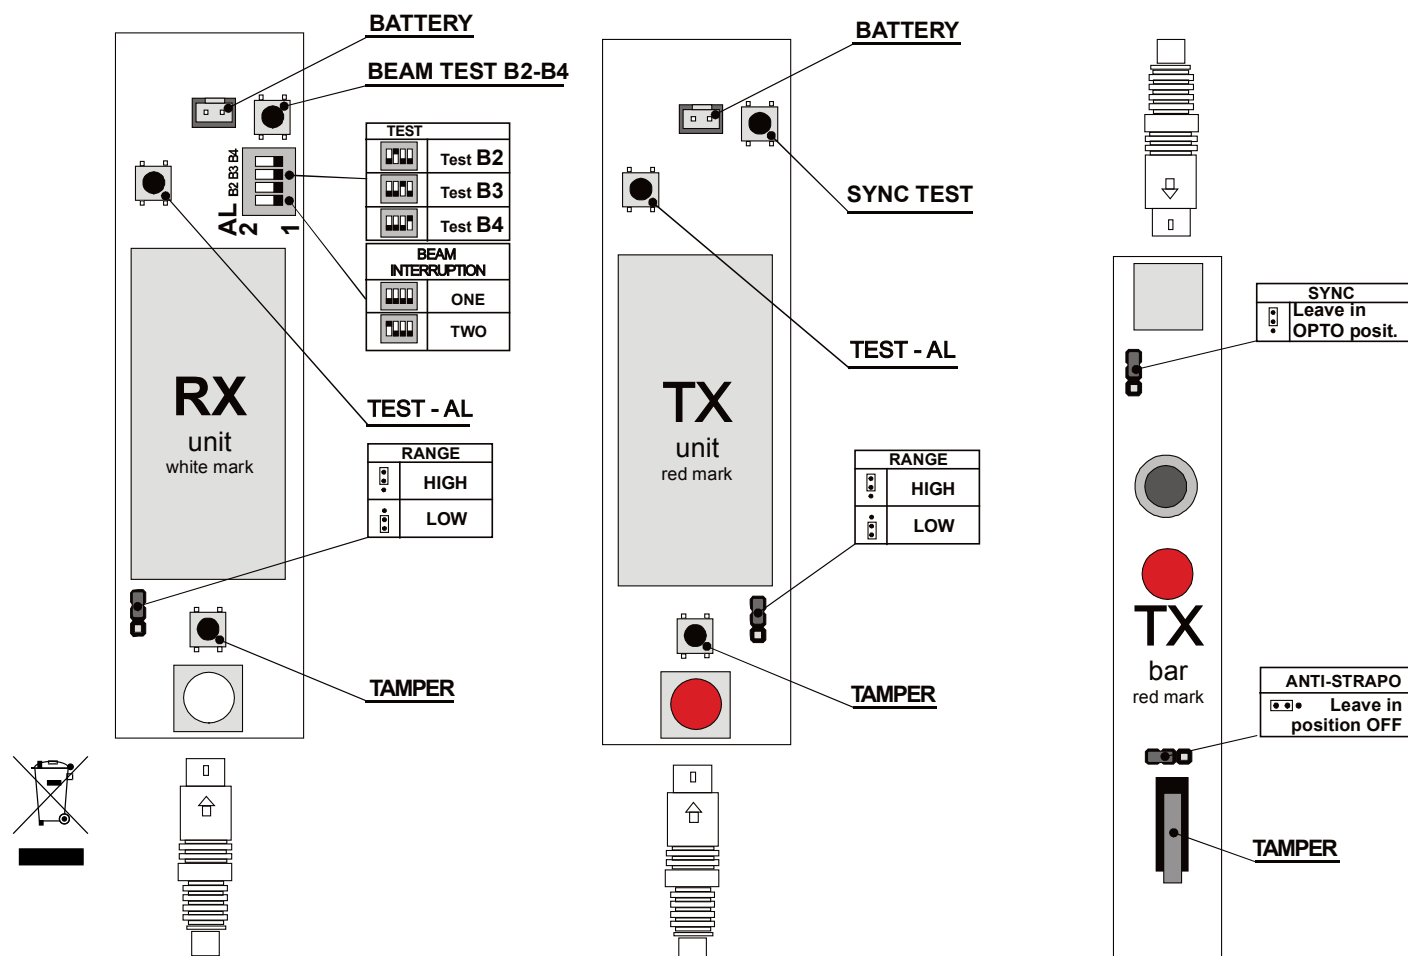

Figure 3
4. Based on the distance between the bars, set the RANGE jumpers (see Figure 3) according to the following table:
11. For correct functioning of the tamper positioned in the bars, check that the ANTI-STRAPO jumper (see Figure 3) is in the OFF position. A tamper of the RX unit is reported to the system as a tamper alarm and a tamper of the TX unit is reported as activation of the detector (instant or delay zone).